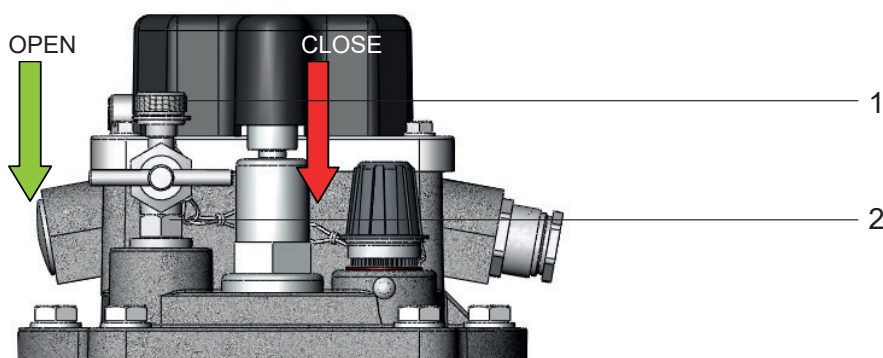

Figure 2 - Bleeding valve
- Remove the small cap nut (Fig. 2/ N° 1) from the bleeding valve (Fig. 2/ N° 2)